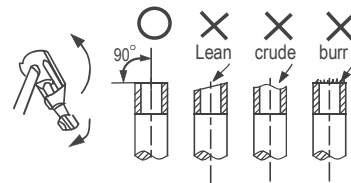

Fig. 8-1
- Cut a pipe with a pipe cutter. (refer to Fig. 8-1)